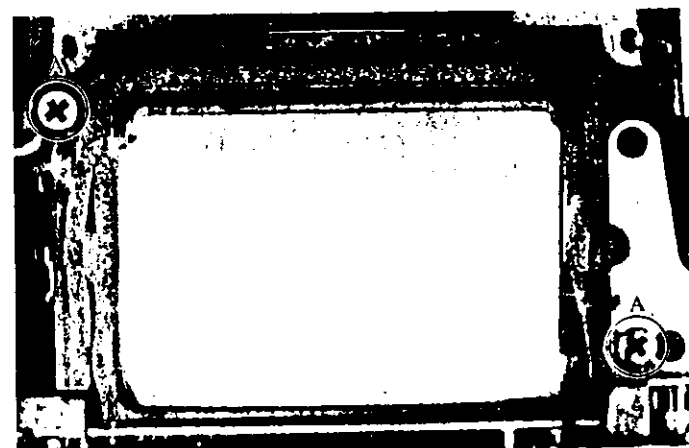

Fig. 18
- 3) Adjust the 45° angle of the mirror with **SCREWS A** as shown in Fig. 18.
- 1) Absolutely refrain from turning the **SCREWS A** of Fig. 18, unless the mirror or the mirror box has been exchanged.